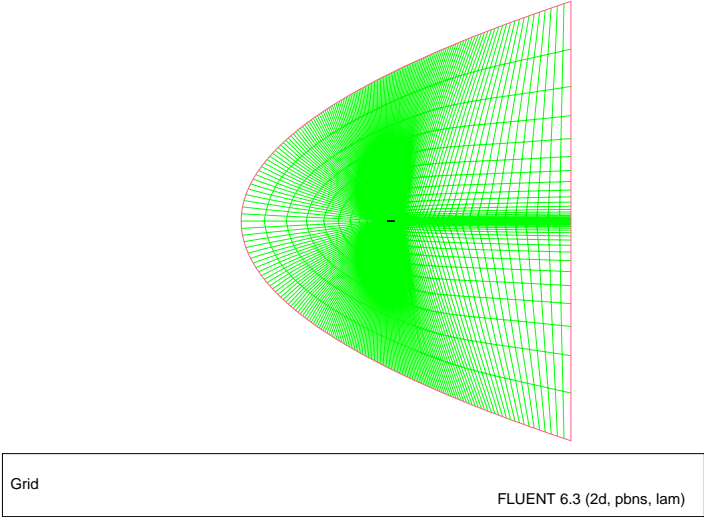

Figure 3.2: The Entire Grid
3. Display the grid (Figures 3.2 and 3.3).